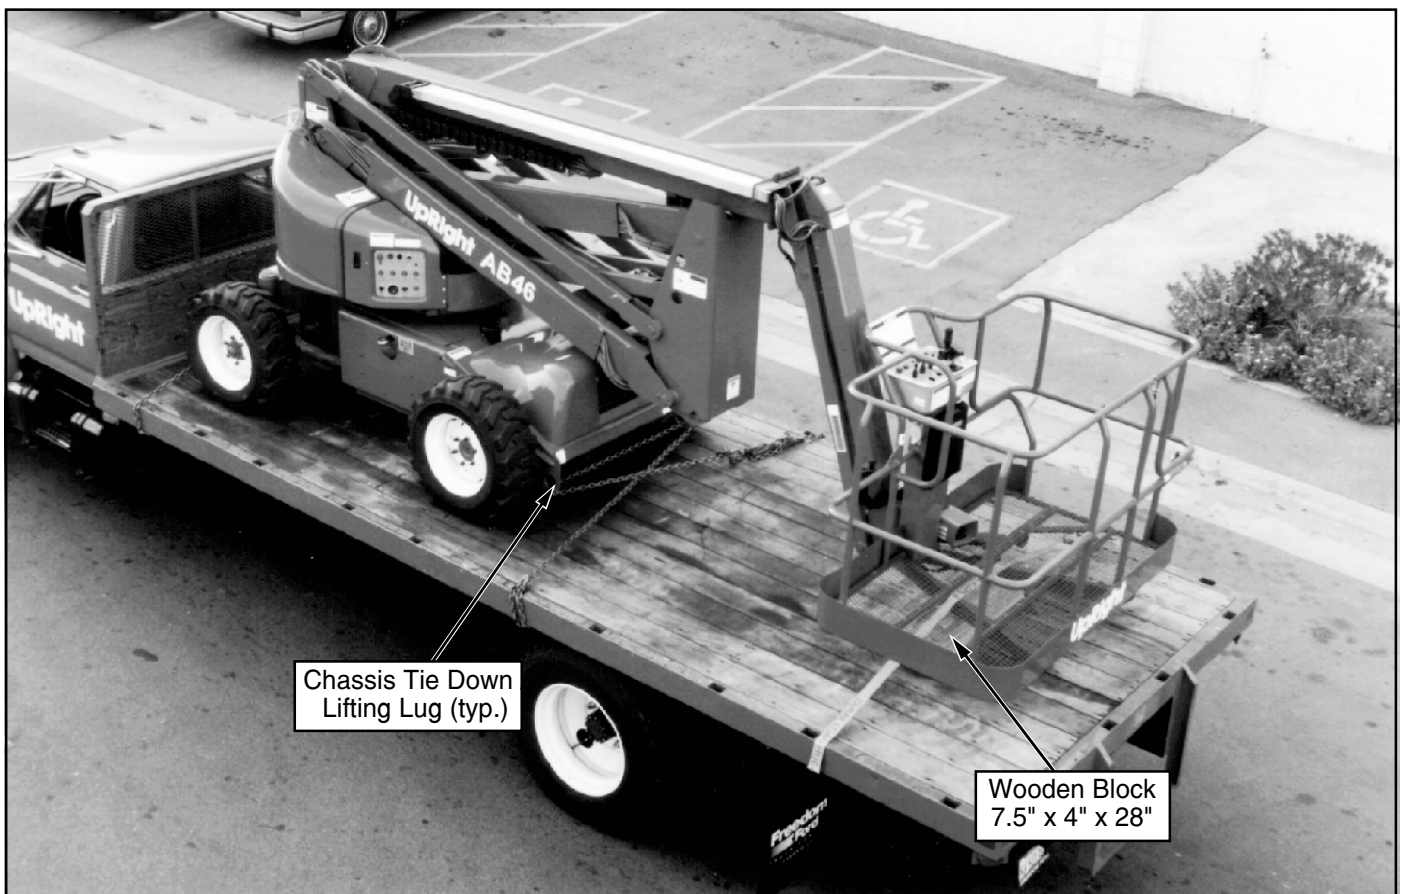

Figure 6: Securing the Machine for Transportation
5. Secure the machine to the transport vehicle using chains / straps of adequate load capacity (refer to specifications, back page) attached to chassis tie down lugs (see figure 6).
6. Place a wooden block (7.5" x 4" x 28") under platform support braces as shown (see figure 6).
7. Attach ratchet strap; under platform floor grating, over support braces (see figure 6). Tighten securely, do not overtighten.